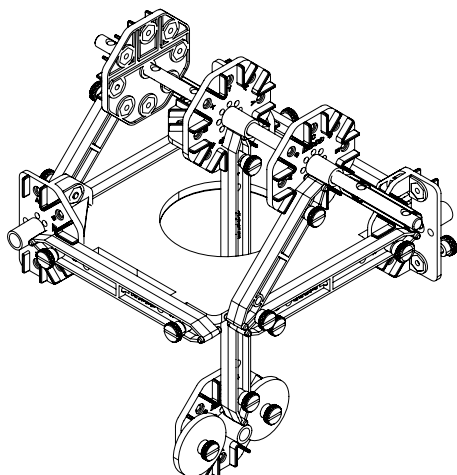

Figure 10: I-beam with masses installed on the damping pendulum.
8. Add a 20 g mass to the flat round connector on both sides of the #4 I-beam, as shown in Figure 10. Secure the masses in place with truss set screws.
9. Lift the other end of the #4 I-beam up through the hole in the middle of the fifth floor, then attach the upper end of the beam to the bottom vertical slot on the full round connector, as shown in Figure 10.
**NOTE:** In Figure 10, to make the pendulum more visible, the wheel on the axle and the half-round connector at the nearest corner are not shown.